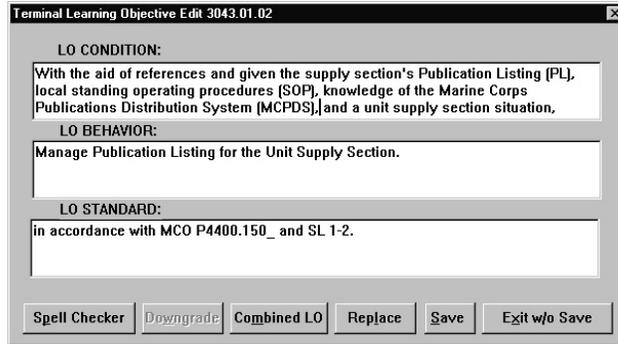

Figure 6-46. Terminal Learning Objective Edit
2. Click on **Edit**. The Terminal Learning Objective Edit dialog box appears (Figure 6-46).
4. If you have previously entered justification for downgrading the TLO behavior from that of the task, and if you wish to edit that justification statement, click on **Downgrade**. Edit the text as desired and click on **Save**. You will be returned to the Terminal Learning Objective edit dialog box (Figure 6-46).
2. Click on **View**. A dialog box similar to the one in Figure 6-46 or Figure 6-47 opens.